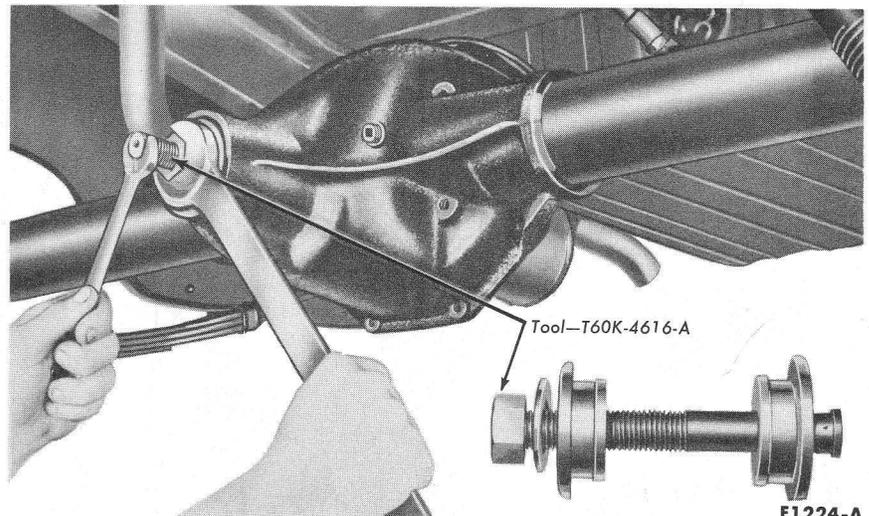

FIG. 11—Pinion Bearing Cup Installation
9. If the pinion bearings cups are to be replaced, drive them out of the carrier casting with a drift. Install the new cups with the tool shown in Fig. 11. Make sure the cups are properly seated in their bores. If a 0.0015 inch feeler gauge can be inserted between a cup and the bottom of its bore at any point around the cup, the cup is not properly seated.